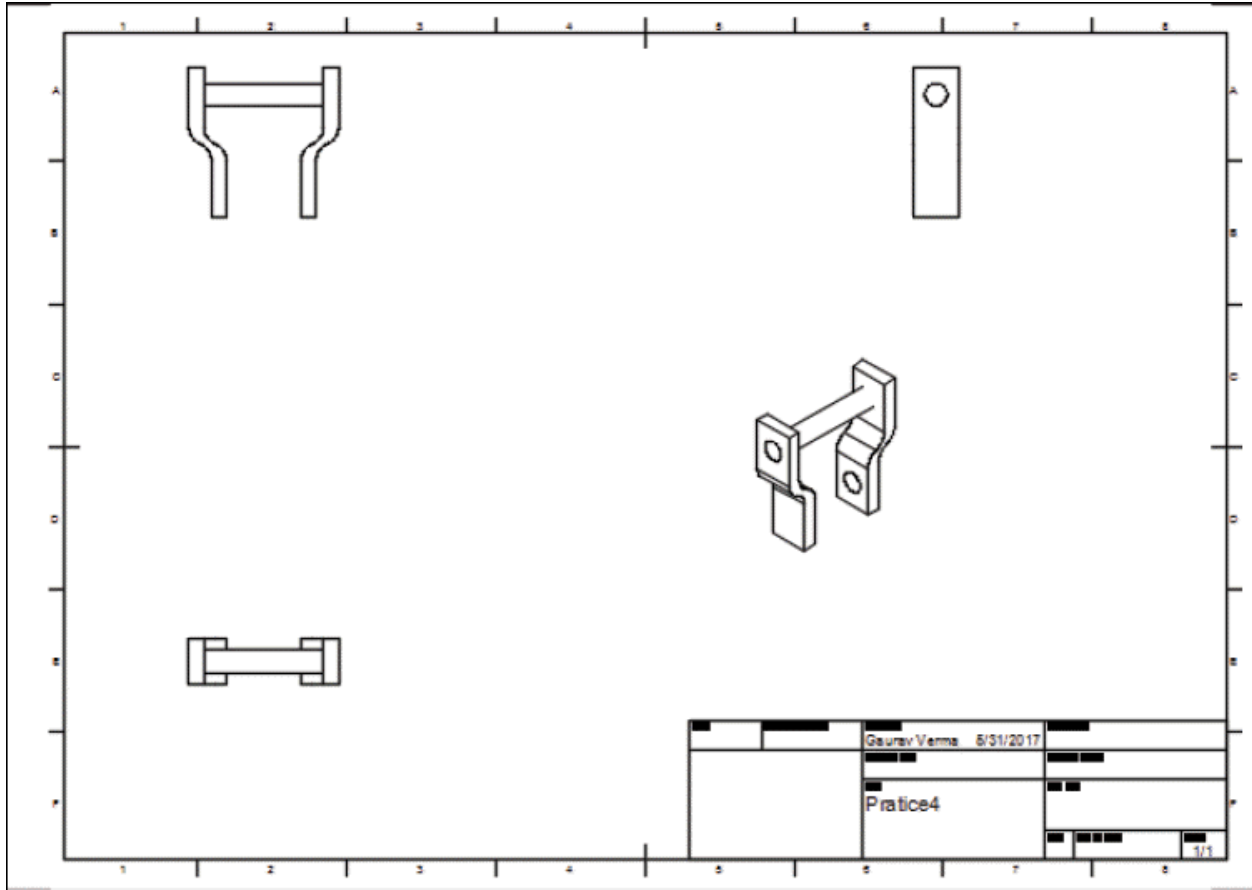

Figure-10. Projected views created
- Place the projected views of model at desired locations and press **ENTER**. The projected view(s) are created on drawing sheet; refer to Figure-10.